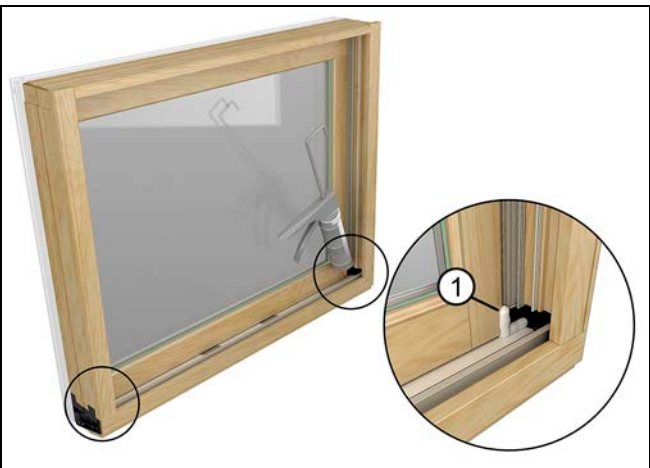

Figure 71
2. Apply a 3/8" (10) bead of sealant between the sash and corner key continued around to the corner key and sill joint as shown in Figure 71. Tool the sealant into the joinery areas.